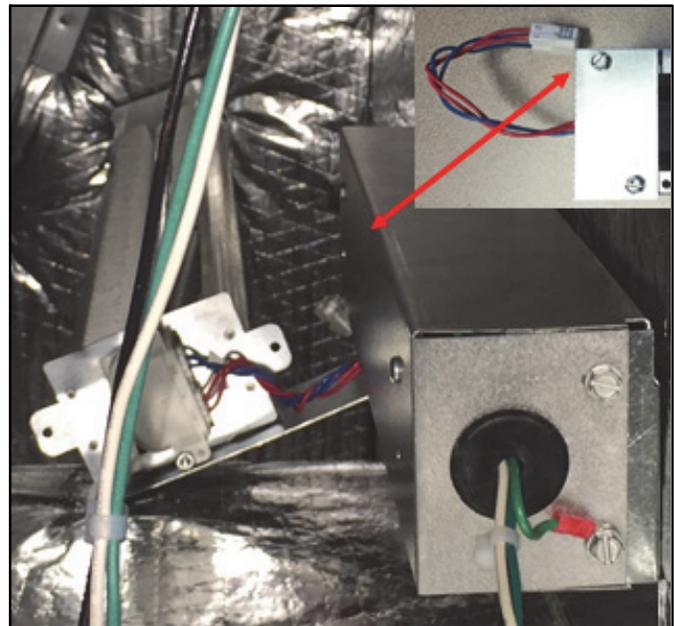

Figure 7. Secure and Wired PCO Cartridge
2. First press the cartridge into the back support clip and then secure the PCO cartridge in the clip on the support bracket. Figure 7 shows the properly installed PCO cartridge.
3. Connect UVA lampholder 4-wire (red/blue) female connector to male 4-wire connector coming from ballast (see figure 7, upper right) by grasping each connector half, aligning halves and pushing them together. Wire positions are numbered to aid in proper connector alignment.